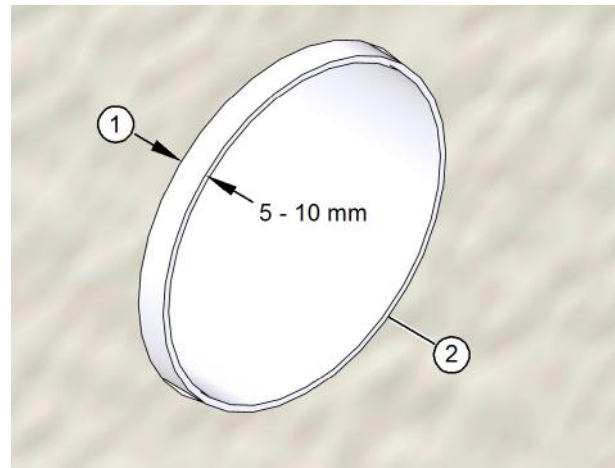

Fig. 7: Checking the ventilation pipes
- ▶ Check that the ventilation pipes protrude 5 - 10 mm beyond the external plaster (see item 1 in Fig. 7).
- ▶ Check that the cut surfaces of the ventilation pipes have been deburred (see item 2 in Fig. 7).